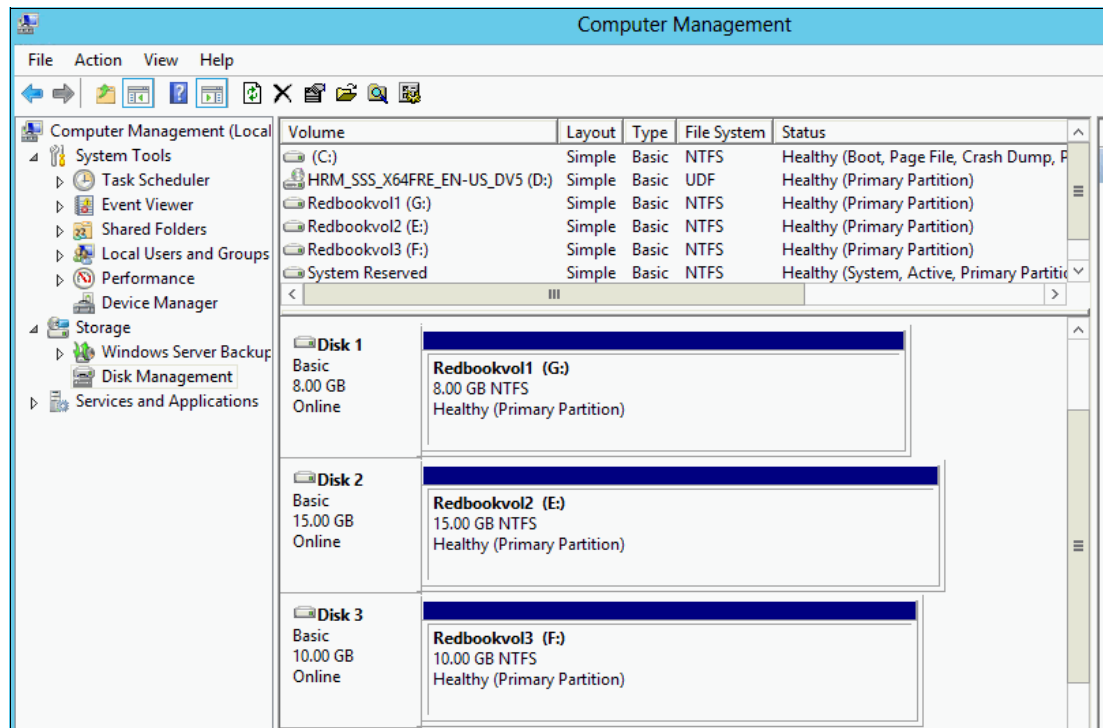

Figure 6-1 Host volume properties
1. First, record information about the existing external logical unit numbers (LUNs). In our example, from the Windows 2012 Server Manager Dashboard, select **Tools** → **Computer Management** → **Storage** → **Disk Management**, as shown in Figure 6-1. You can see the three volumes, disk (G:), disk (E:), and disk (F:).